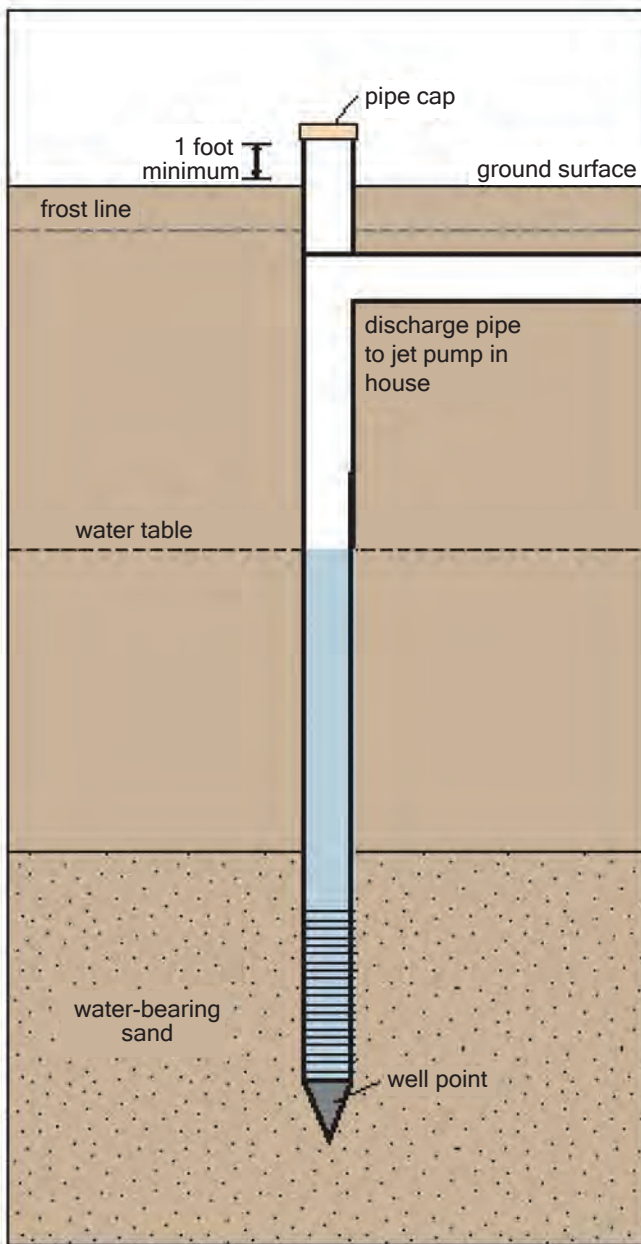

Figure 4. Sandpoint well.
- *Sandpoint wells* (Class 3 wells) draw water from shallow sand and gravel deposits. Sandpoint wells are constructed by driving a pipe with a well point into these deposits. A screen allows the groundwater to enter the pipe and be pumped to the surface (Figure 4). Shallow sandpoint wells are usually driven into shallow unprotected aquifers and may be susceptible to contamination.